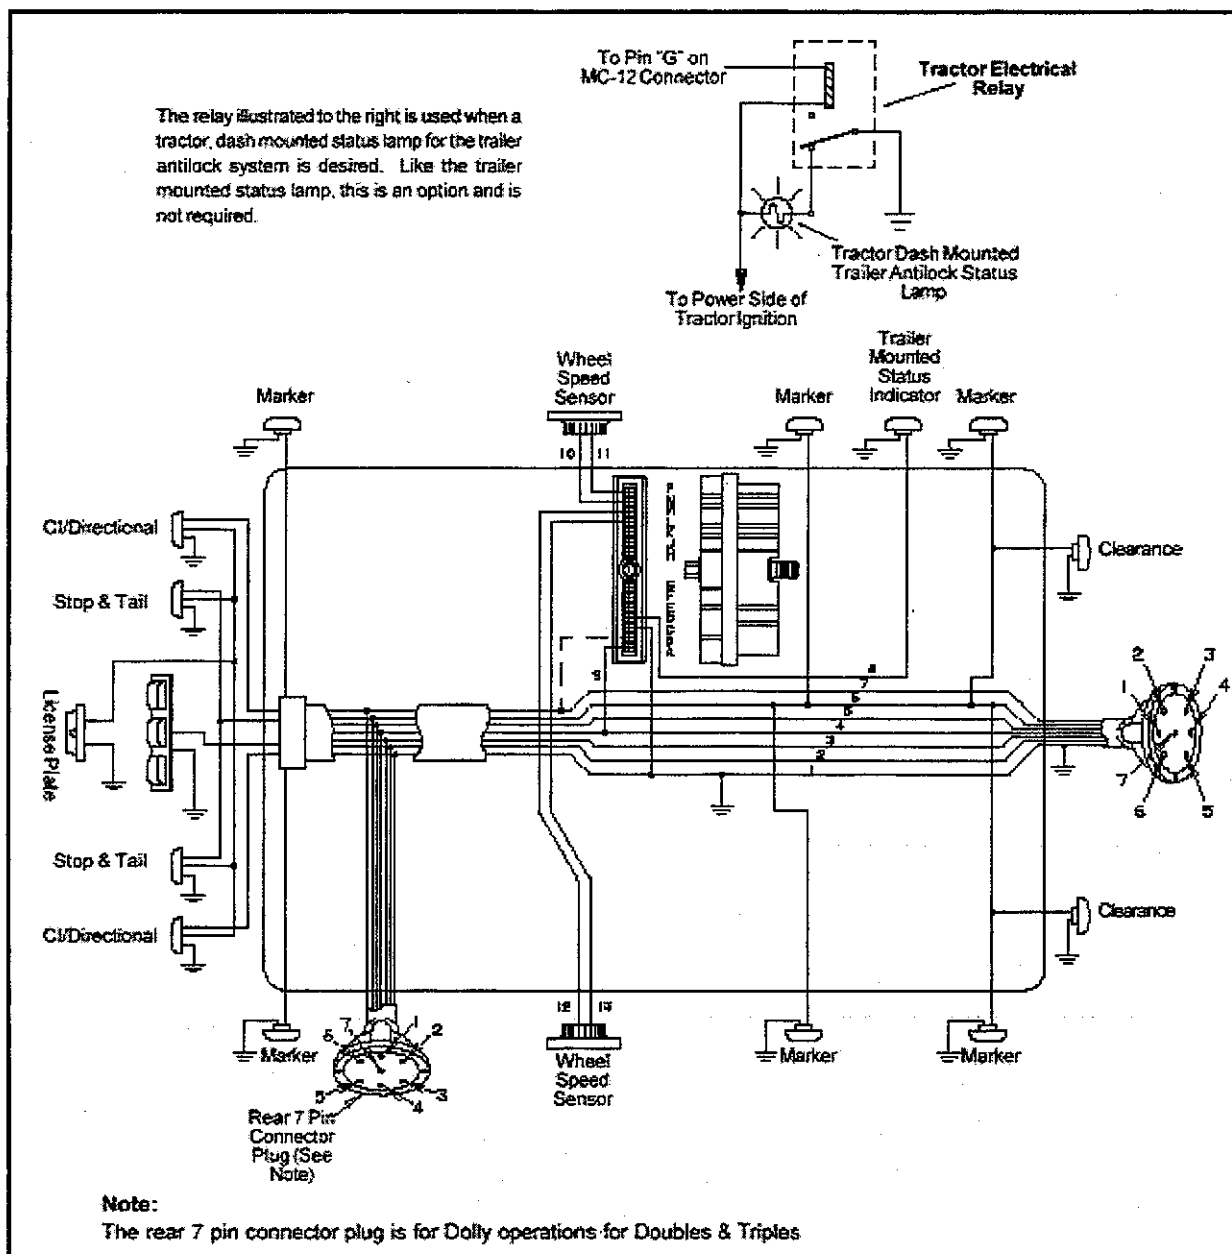

Figure 2—MC-12 System Wiring
- See Figure 2—MC-12 Trailer System Wiring